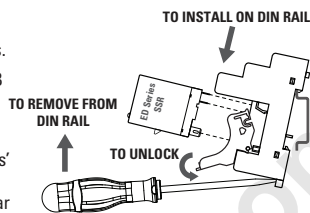

fig. 1 DRSED Socket Mounting/Dismounting
- ◆ Insert ED series SSR into DRSED socket observing terminals' orientation (fig. 1).
- ◆ Install the ED series SSR / socket on the DIN rail as shown in fig.1
- ◆ To retrieve the ED series SSR from socket, first unlock latching mechanism, as shown in fig.1, then gently pull the SSR.
- ◆ Release DRSED socket from DIN rail using a screwdriver. See fig.1.